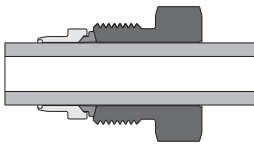

Fig.1
1. Put the nut and ferrules onto the tubing in fixed sequence and orientation (Fig. 1).